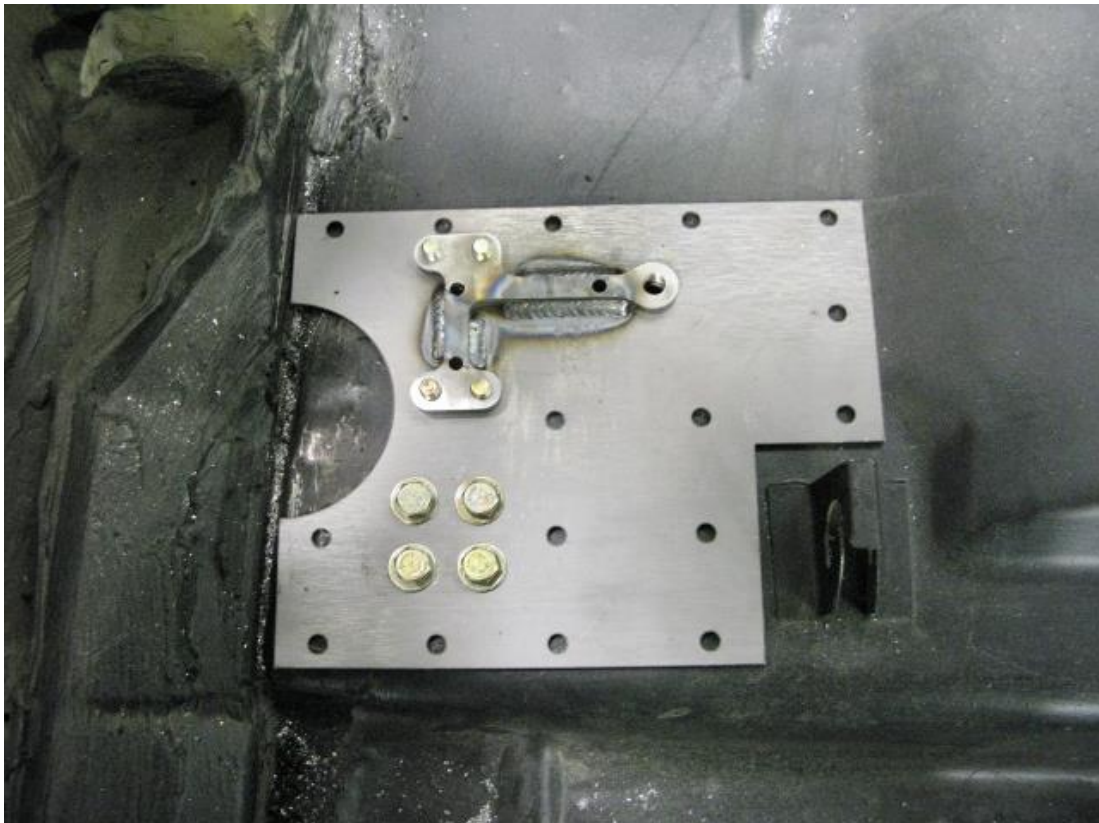

Figure 11 - Install the Spring Pocket and Floor Pan Doubler
20. Bolt the floor pan doublers and the DSE pocket assemblies back into the vehicle using the stock bolts as well as eight of the provided  $3/8$ "-16 x 1" L bolts and washers. Four of them will install into the nut plate from the inside of the vehicle and the other four will bolt into the nut plate from underneath the vehicle (Figure 11). Do not torque the bolts at this time.